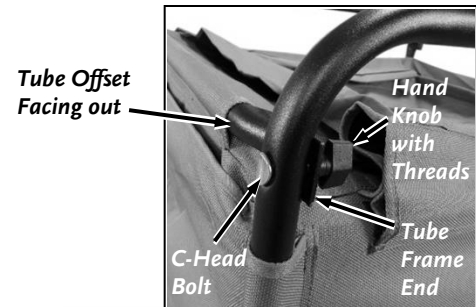

Figure 38
17. Slide the Top Rear Tube Frame through the Enclosure Loop and secure to the Side Tube Frames with two C-Head Bolts and Hand Knobs with threads (**Figure 38**).